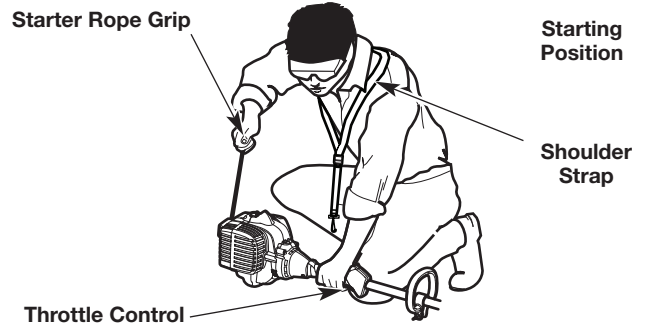

Fig. 12
WARNING: Avoid accidentally starting the unit. To avoid serious injury, the operator and the unit must be in a stable position when pulling the starter rope (Fig. 12).
3. Crouch in the starting position (Fig. 12).
5. Pull the starter rope with a controlled and steady motion **5 times** (Fig. 12).
7. Pull the starter rope with a controlled and steady motion 5 times to start the engine (Fig. 12).